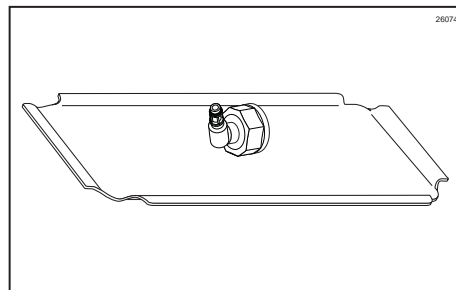

Figure 67
15. Remove the Adapter from the sanitizer solution and place on a sanitary tray to air dry. (See Figure 67.)